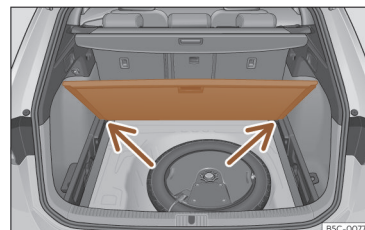

Fig. 126 Variable luggage compartment floor: inclined position.
- Rest the floor on its housings»» Fig. 126 (arrows).